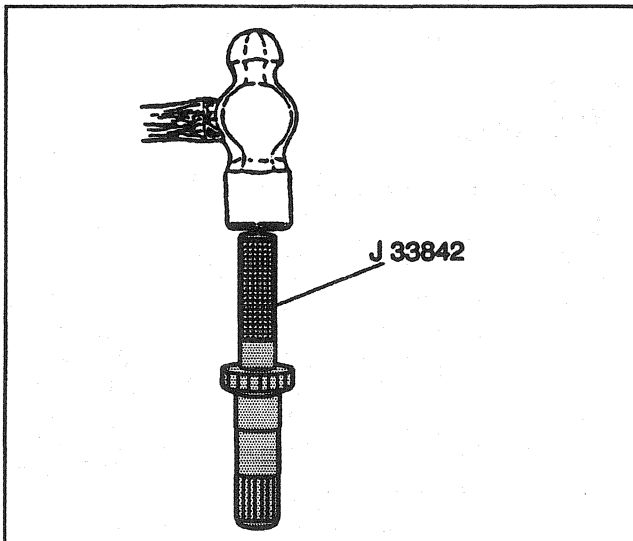

Figure 43—Installing the Pilot Bearing
5. Bearing to the output shaft. Use J 33842 (Figure 43).